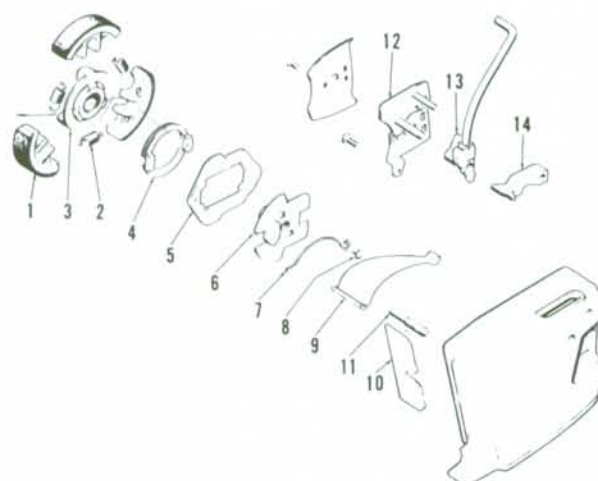

Fig. ST23—Exploded view of clutch and chain brake used on some 020AV and 020AVPE models.
Fig. ST22—Exploded view of Model 020AV and 020AVPE automatic oil pump and clutch assembly. Refer to Fig. ST23 for view of clutch used on models with chain brake.
CHAIN BRAKE. Some models are equipped with a chain brake system designed to stop chain movement should kickback occur. Refer to Figs. ST23, ST25 and ST28 for exploded views of chain brake systems used. On all models, brake is activated when operator's hand strikes hand guard, pushing hand guard and brake rod forward. Forward movement of brake rod activates brake mechanism and allows brake spring to force brake shoe tight against clutch drum. To reset brake mechanism, pull back hand guard.
On models equipped with chain brake shown in Fig. ST23, retainer (5) and locking slider (4) disengage clutch at the same time brake is applied, allowing engine to continue running freely.
moved. Inspect all parts for excessive wear and renew as necessary. Models 041, 041AV and 041AVE use coil springs instead of flat brake springs (9—Fig. ST23). When reassembling coil springs, install large diameter spring to the front directly above brake shoe lining. Install small diameter spring toward rear of brake shoe. On models equipped with chain brake shown in Fig. ST23, make certain retainer (5) and locking slider (4) will move easily and clutch rotates freely with locking slider (4) disengaged. On